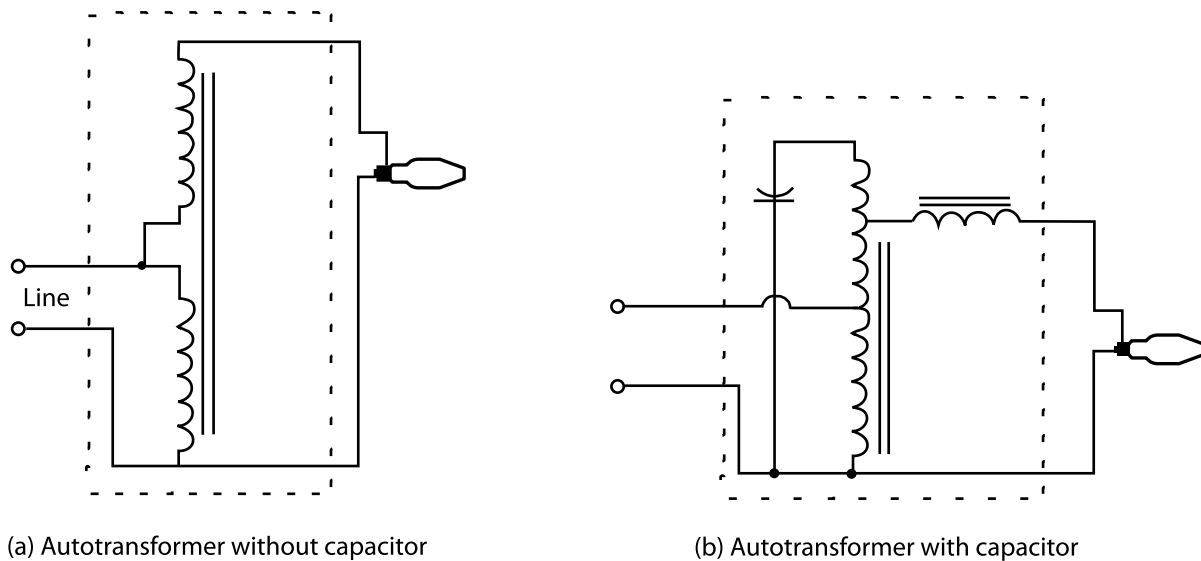

Figure 2—Autotransformer ballasts
Also called a *lag autotransformer ballast*, this type of ballast is essentially an autotransformer with or without a series reactor. See Figure 2(a). Its performance is similar to that of the reactor ballast, but it can be used on supply voltages above or below the required lamp starting voltage.
This ballast is larger and more expensive than the simple reactor ballast. It also has greater losses than the reactor ballast. The addition of a capacitor, as shown in Figure 2(b), improves the circuit power factor (PF) to above 90%. The autotransformer ballast is used with mercury lamps.